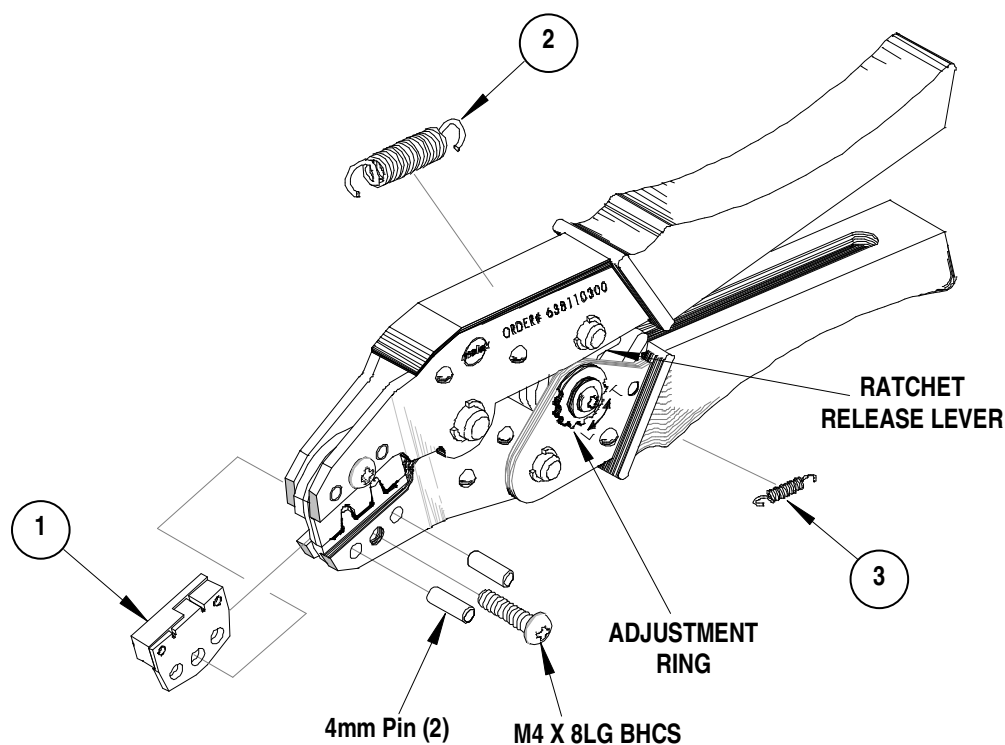

Figure 4
4. Finish closing the hand tool until the ratchet releases. See Figure 4.
Should this tool ever become stuck or jammed in a partially closed position, **Do Not force the handles open or closed.** The tool will open easily by lifting the ratchet release lever. See Figure 4.
## How to Adjust Tool Crimp Force (See Figure 4)